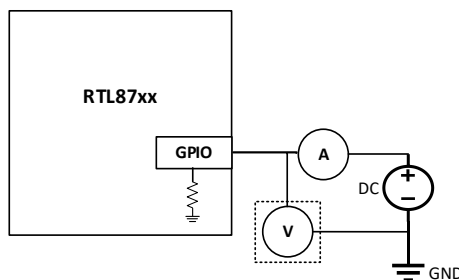

Figure 6-3 I/O Pull down resistor test
- (1) Configure the GPIO to be tested as input mode.
- (2) Configure the GPIO registers to be tested as 0 for pull-up and 1 for pull-down (Table 6-3).
- (3) For GPIOs with multiple pull-down resistance values, it is necessary to change the configuration of the register GPIO_BIT_PUPDC and test them separately.
- (4) When the ammeter is not connected, measure the voltage of the GPIO pin to be tested, and the voltage value is 0V.
- (5) According to Figure 6-3, use an external power supply to provide the same voltage (V_2) as the GPIO power, and measure the current (I_2) at this time, and the pull-up resistor is $R_{pd}=V_2/I_2$.